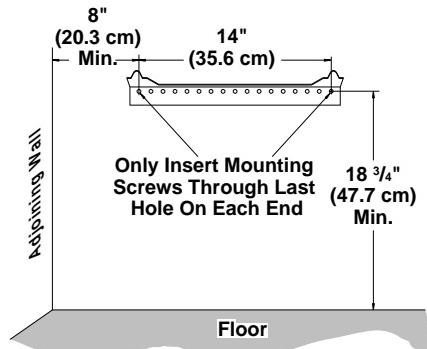

Figure 15 - Mounting Bracket Clearances
WARNING: Maintain minimum clearances shown in Figure 15. If you can, provide greater clearances from floor and joining wall.
2. Mark screw locations on wall (see Figure 15).